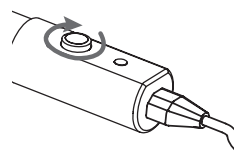

Fig.9
- Turn the thermostat knob in a clockwise direction until it reaches the maximum setting [Fig.9].